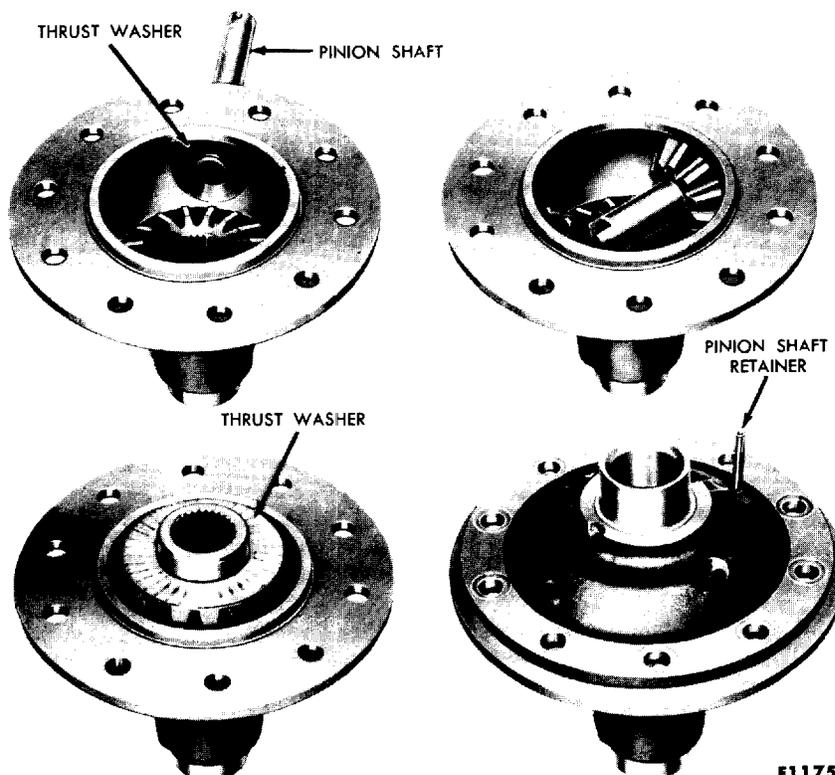

FIG. 8—Assembly of Differential Case
6. Drive out the pinion shaft (Fig. 8) with a brass drift. Remove the gears and thrust washers.
1. Place a side gear and thrust washer in the differential case bore (Fig. 8). **Lubricate all differential parts liberally with axle lubricant during assembly.**
4. Place the second side gear and thrust washer in position (Fig. 8), and install the cover of the differential case. Install the retainer. A pinion or axle shaft spline can be inserted in the side gear spline to check for free rotation of the differential gears.